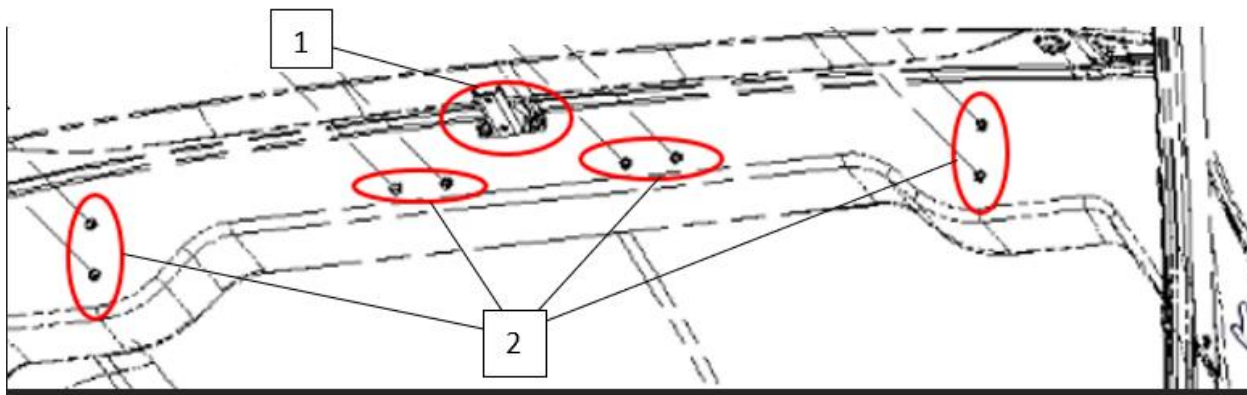

Figure 3: Air deflector support and bolt hole locations
7. Next install the Air deflector support P/N 4330574C91 (Figure 3, item 1) on to the rear center top of the cab.
10. Use the remaining 8 bolts(Figure 3 item 2) and install on the underside of the extension into the roof deflector pre installed bolt holes.